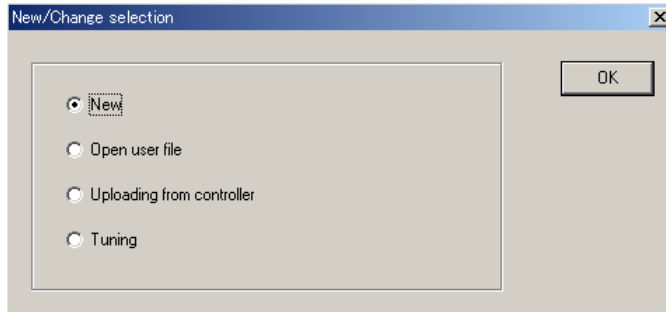
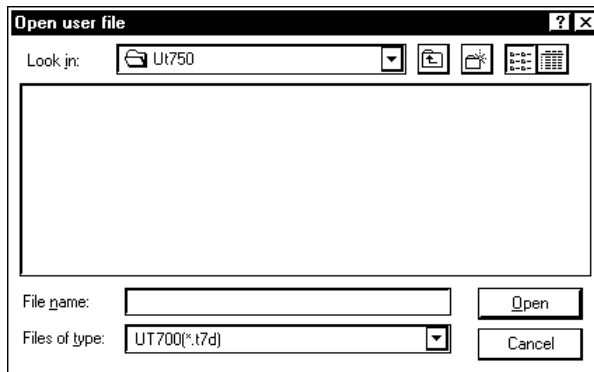
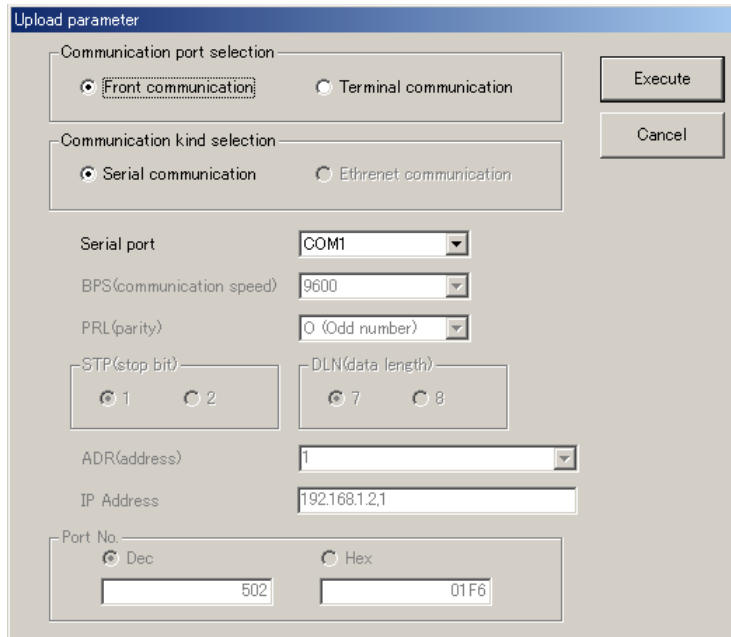
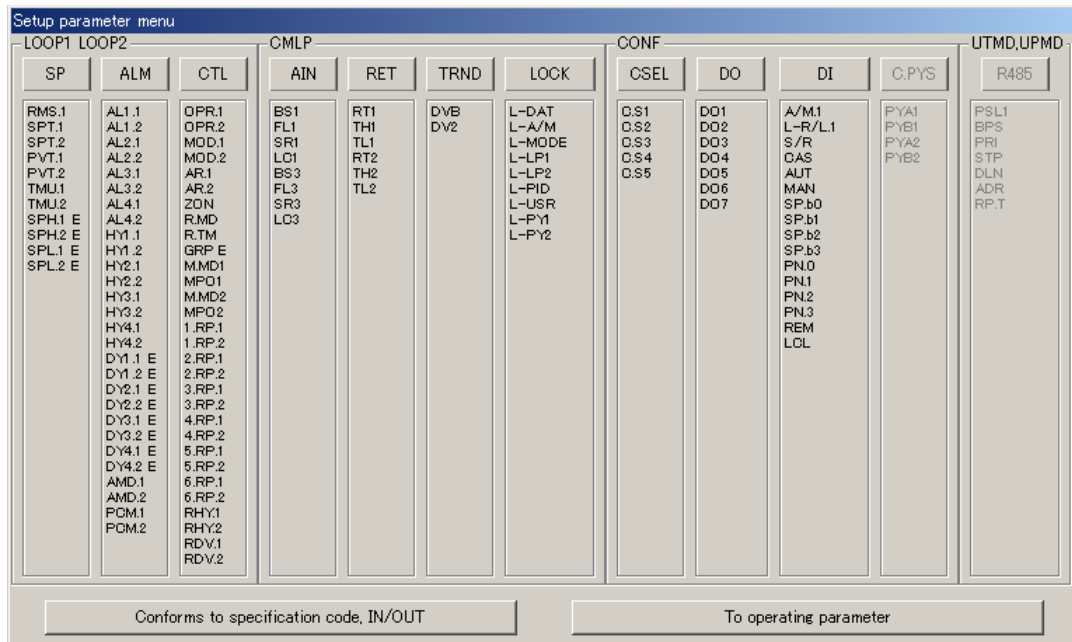

Figure 4.2.1 New/Change Selection Dialog Box
Figure 4.2.7 Open User File Dialog Box (Example of UT750)
Figure 4.2.8 Upload Parameter Dialog Box
Figure 4.3.2 Setup Parameter Menu Dialog Box (Example of UT551)
After you select the controller model, the New/Change Selection dialog box appears (Figure 4.2.1).
- (12) The Setup Parameter Menu dialog box (Figure 4.3.2) opens. (Go on to section 4.3.2.)
After you click **Open user file** in the New/Change Selection dialog box (Figure 4.2.1), the Open User File dialog box (Figure 4.2.7) appears.
- (1) On the menu bar, click **File** then choose **Open**. The Open User File dialog box (Figure 4.2.7) opens.
- (2) Click in the **Look in** box.
- (3) From the list thus appearing, locate the folder in which the desired parameter setting file resides and select it.
- (4) The files contained in the folder you selected are listed in the box beneath. Click to select the parameter setting file, and click **Open**. When LL100 has successfully finished reading the parameter settings from the file, a dialog box displaying the “Uploading from file have finished.” message appears.
- (5) Click **OK**. The Setup Parameter Menu dialog box (Figure 4.3.2) then appears. (Go on to section 4.3.2.)
Clicking **Uploading from controller** in the New/Change Selection dialog box (Figure 4.2.1), opens the Upload Parameter dialog box (Figure 4.2.8).
- (1) On the menu bar, click **Communication**, and then choose **Upload from controller**. The Upload Parameter dialog box (Figure 4.2.8) opens.
- (2) Click **Front communication** (this means to use the communication port at the front of the controller).
- (3) From the **Serial port** list, select the communication port of the personal computer from **COM1** to **COM16**.
- (4) Connect the controller to the personal computer, and then click **Execute**.
- (5) When the parameter data has been successfully uploaded, the tool displays a message stating "Parameter data has been uploaded from the controller."
- (6) Click **OK**. The Setup Parameter Menu dialog box (Figure 4.3.2) then appears. (Go on to section 4.3.2.)
- (2) Click **Terminal communication** (this means to use the communication terminals at the rear of the controller).
- (3) Click **Serial communication**.
- (4) From the **Serial port** list, select the communication port of the personal computer from **COM1** to **COM16**.
- (5) Set the RS485 communication conditions:
- (6) Connect the controller to the personal computer, and then click **Execute**.
- (7) When the parameter data has been successfully uploaded, the tool displays a message stating "Parameter data has been uploaded from the controller."
- (8) Click **OK**. The Setup Parameter Menu dialog box (Figure 4.3.2) appears. (Go on to section 4.3.2.)
- (3) Click **Ethernet communication**.
- (4) Set the target controller's IP address and RS485 communication address in the **IP Address** text box.
- (5) Set the target controller's port number in the **Port No.** text box. The port number can be set in decimal or hexadecimal.